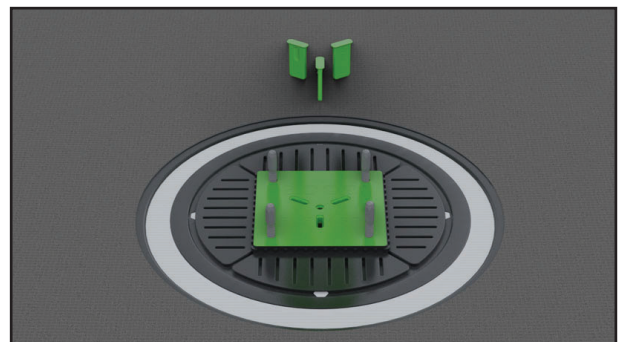

Fig. 25
3. To have the Grate installed centered on the pipe location, insert the three Centering Tabs into the Construction Plug as shown in Fig. 25. To adjust the Grate off-center to assist with tile layout, remove the Centering Tabs to allow for adjustment up to ½" off center in any direction.